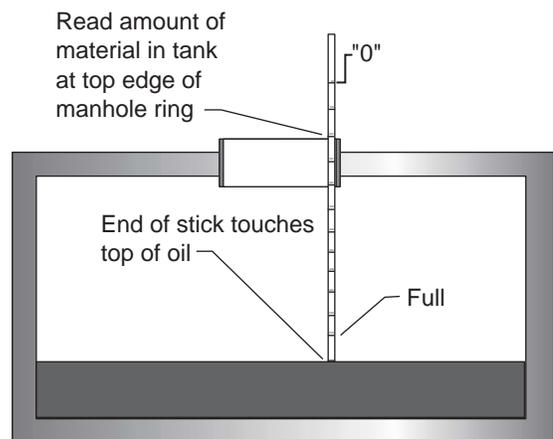

Figure 2. Using the Measuring Stick
- 6. Open the valve at the supply source and monitor the tank gage. When the gage indicates full, close the supply valve. (See Figure 2 for the use of the measuring stick)
3. When the tank gage indicates full, close the supply valve. (See Figure 2 or the use of the measuring stick)